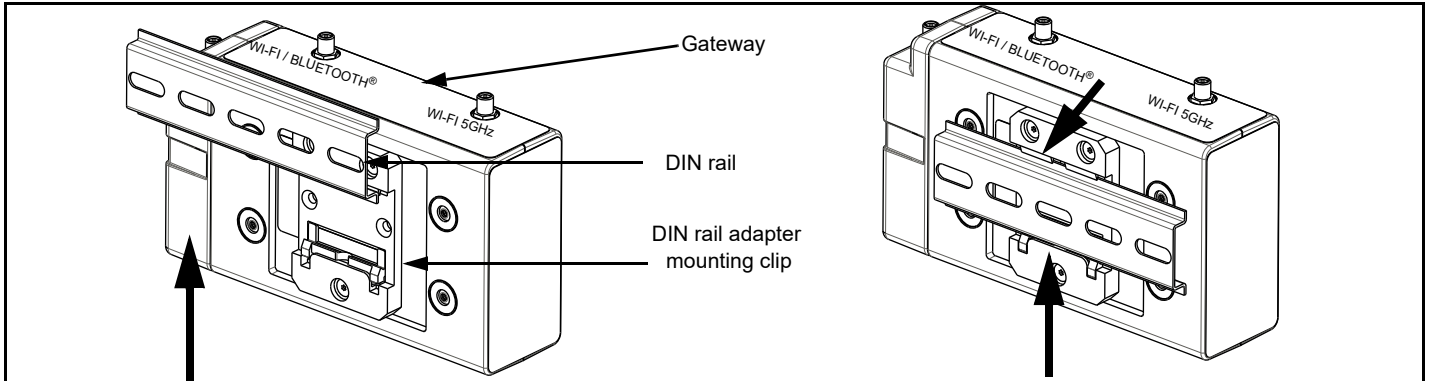

Figure 4: Gateway installation (Antennas not shown for clarity)
2. Hook lower latch of DIN rail adapter mounting clip to lower edge of the DIN rail as shown in figure 4.
3. Lift Gateway up onto DIN rail and snap into top of the DIN rail adapter mounting clip as shown in figure 4. The upper latch of the DIN rail adapter mounting clip will lock onto the DIN rail when released.